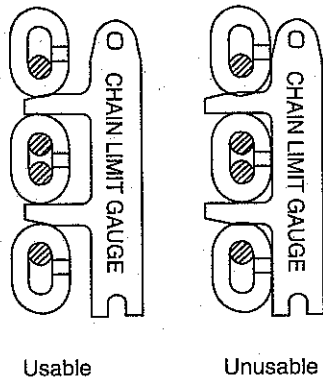

Figure 4 Measuring the Pitch
2. Chain: If chain binds jumps or is noisy, check for cleanliness and proper lubrication. If trouble persists, inspect chain for wear and elongation. (See Fig. 4 and 5)